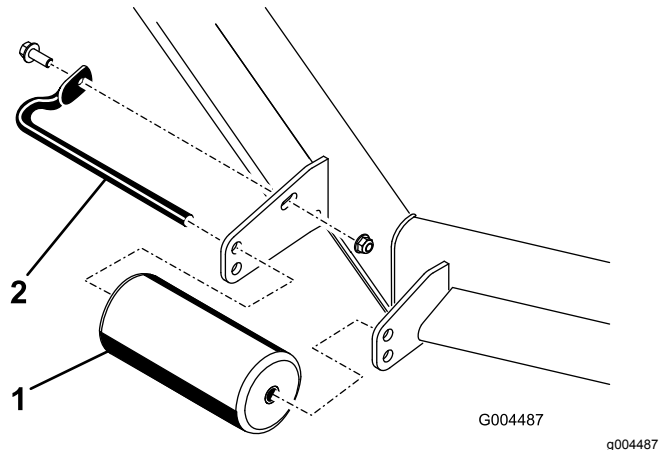

Figure 11
- A. Remove the screw and nut securing the roller shaft to the deck bracket (Figure 11).